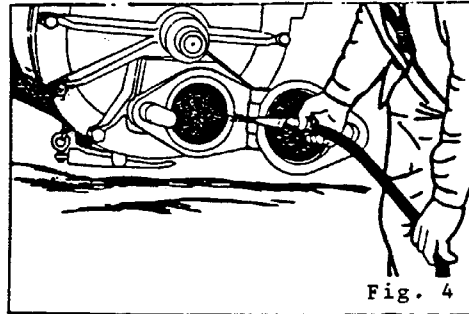

Fig. 4
6. Switch the rock back and forth, each time flushing the inside and outside. Direct the water jet through the rock valve into the material cylinders, and continue this procedure until the water running out is clear and clean. (figure 4)